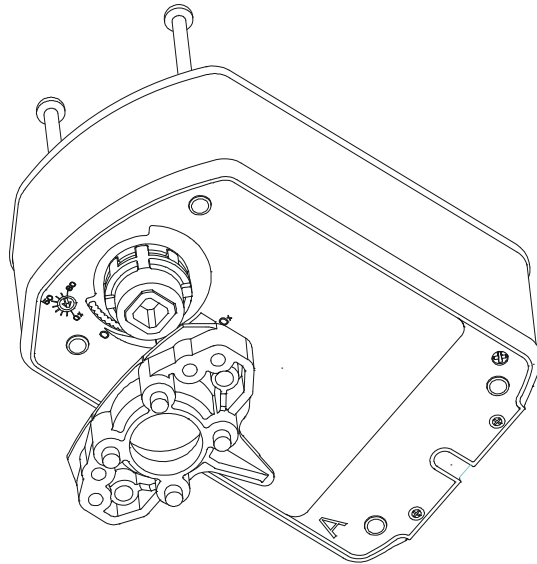

Figure 25: Installing the Linkage
4. Install linkage base on Side A using the two #10-14 x 2.75 in. long screws (Figure 25). The recommended torque is 20 to 24 lb-in. (2.3 to 2.7 N·m).